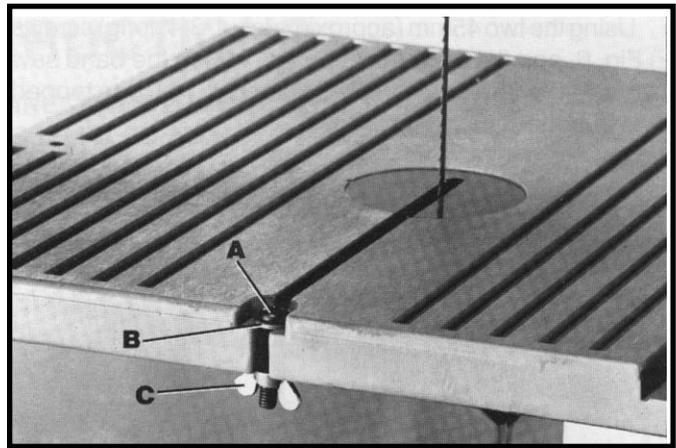

Fig. 10
3. Replace screw (A) Fig. 10, flat washer (B) and wing nut (C) that was removed in **STEP 1**.